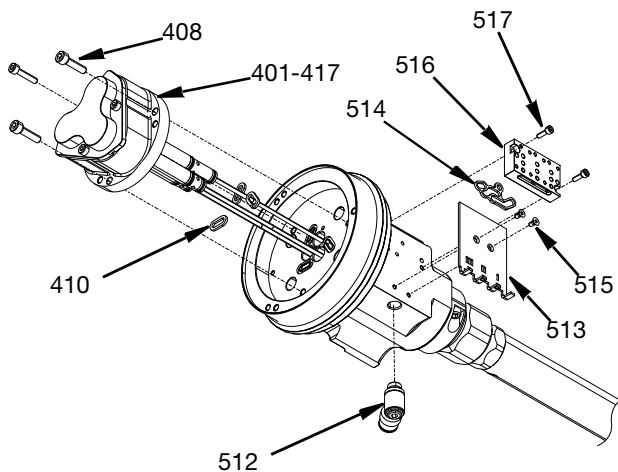

FIG. 15
2. Air gaskets (410) should be discarded.
3. Remove air manifold (516) by removing M3 SHCS screw fasteners (517) with a hex key wrench. Air gasket (514) should be discarded.
4. Remove inner cover (513) by removing M3 flathead screws (515) with a hex key wrench.
5. Remove the 1/8 in. BSPP swivel elbow fitting (512) with a hex key wrench. See FIG. 15.